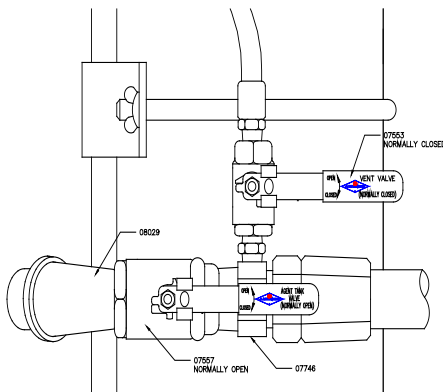

Figure 1
See Below: Figure 1 – Models 484, 485 & 486 (Tall Units – 110 cu. ft. Nitrogen Cylinder)
3. Remove ring pin and CLOSE agent cylinder valve (Valve A in Fig. 1) to prevent further chemical from entering the hose.
4. Remove ring pin and OPEN pressure vent valve (Valve B in Fig. 1) to allow argon gas to by-pass the chemical and pressurize the hose.